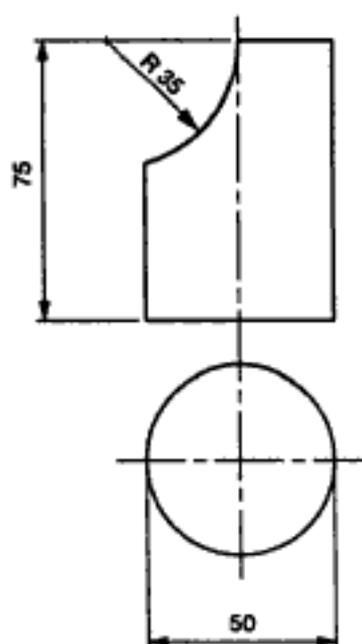

Fig 6.43
- 1 Develop the surface of the cylindrical sheet-metal duct shown in fig 6.43.